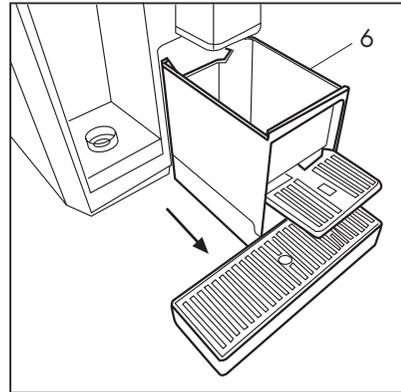
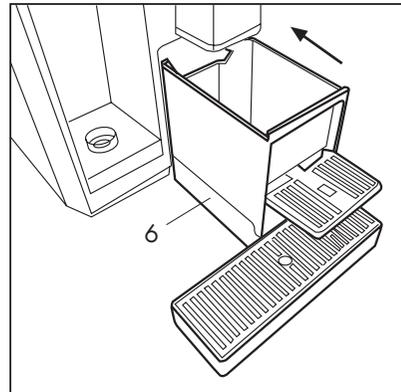

Fig. 16
Fig. 17
• It is advisable to empty the capsule container regularly to ensure that they do not get stuck. Take out the capsule container (6), empty it and rinse it (Fig. 16). Clean the drip tray and the grid to remove residue of water and coffee. Once clean, replace the drip tray with the capsule container (Fig. 17).